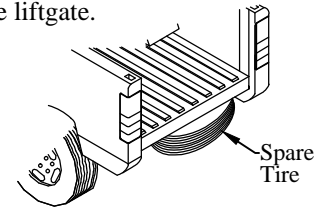

Figure 7: Spare tire protruding past truck box.
1. **Lower** the spare tire (Figure 7).